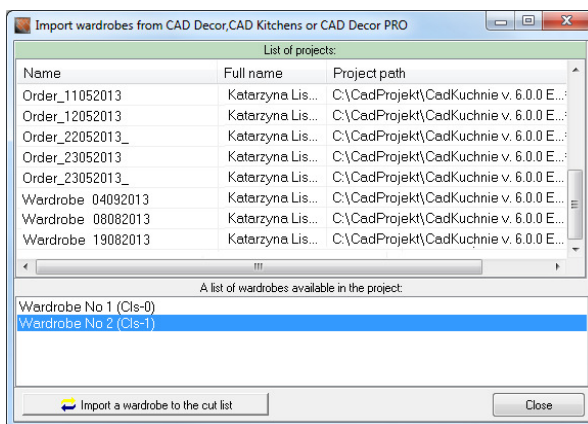

Fig. 48 – importing formats of wardrobes from CAD Kitchens with Wardrobe Module
- 7) - opens a window called **'Import wardrobes from CAD Decor, CAD Kitchens or CAD Decor PRO'** (Fig. 48). For more information about the cooperation between CAD Cut and the Wardrobe Module please see Chapter 9 on page 50.